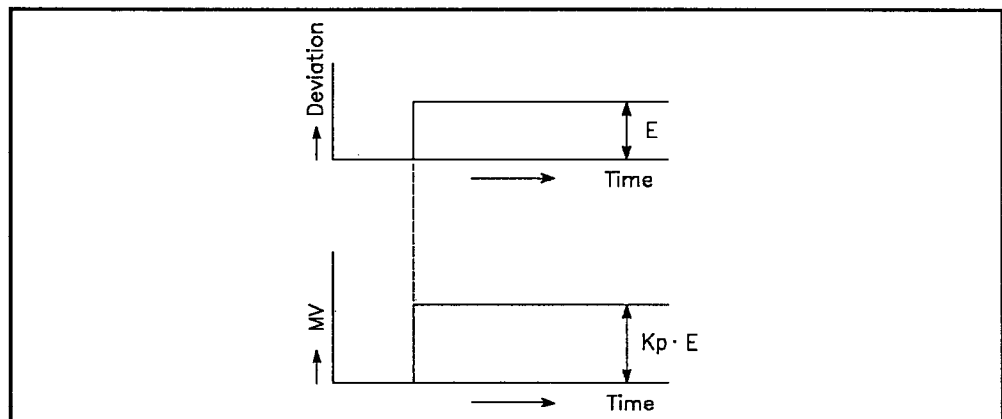

Fig. 4.2 Proportionate Operatoin with a Constant Deviation
- (3) The proportionate operation in step response with a constant E (deviation) is illustrated in Fig. 4.2.